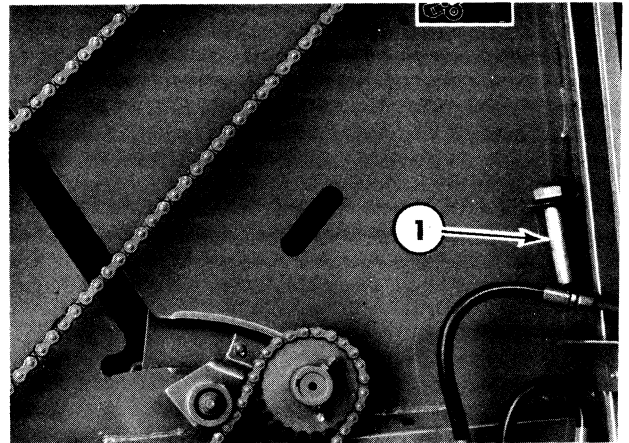
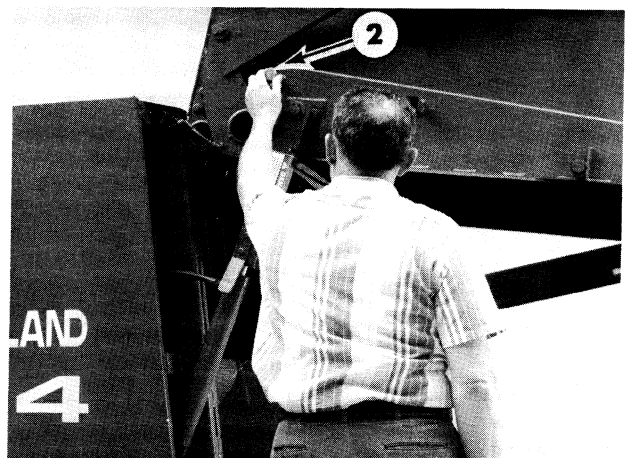

Figure 9-45
Figure 9-46
3. Remove the tension from the apron belts by opening the tailgate, removing the stored bolt at 1, Figure 9-45, and installing it as shown at 2, Figure 9-46. Close the tailgate.
13. Open the tailgate and remove the bolt at 2, Figure 9-46. Replace the bolt in the storage location and close the tailgate.